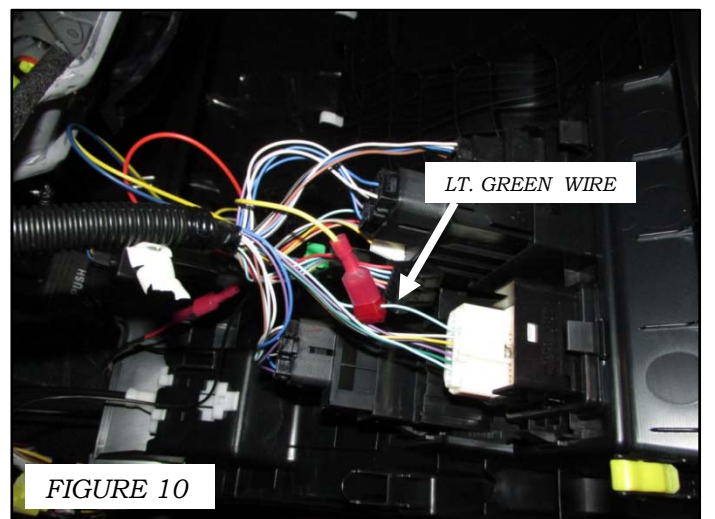

FIGURE 10
6. USING THE RED T-TAP, CONNECT THE YELLOW WIRE OF THE SWITCH HARNESS TO THE LT. GREEN WIRE IN **PIN 8** OF CONNECTOR **J130** ACC TO THE POWER MIRROR CIRCUIT. FIGURES 10 & 11